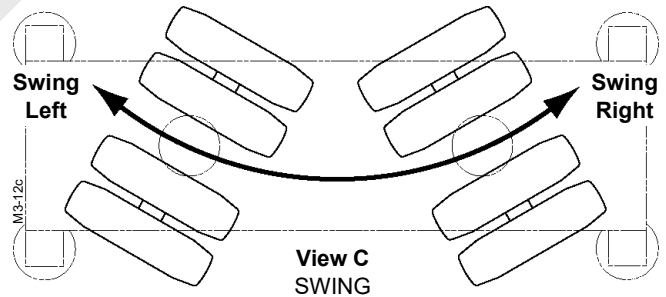

FIGURE 3-15
See Figure 3-15, View B for the following procedure.
3. Rotate wheel assemblies to straight position using right crawler handle in cab. The wheels will stop automatically when they are straight. The wheel angles given in Figure 3-15 will be displayed in the Function Mode Screen (Figure 3-5).
See Figure 3-15, View C for the following procedure.